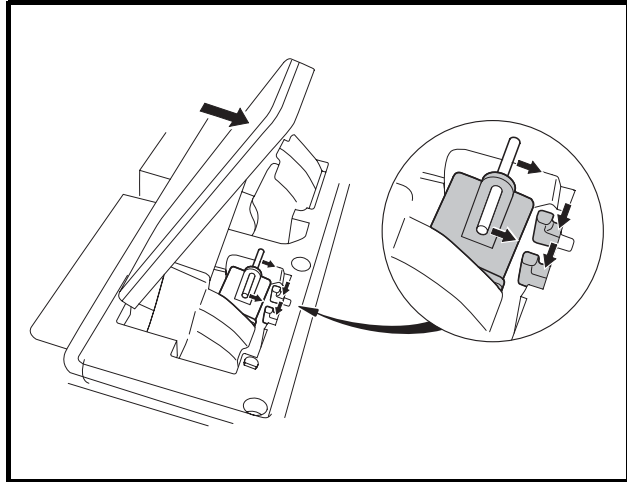

Figure 5-6 Accelerator Spring Upper Crosspin
3. Position upper crosspin in the tab on the pedal group (**Figure 5-6, Page 5-6**).